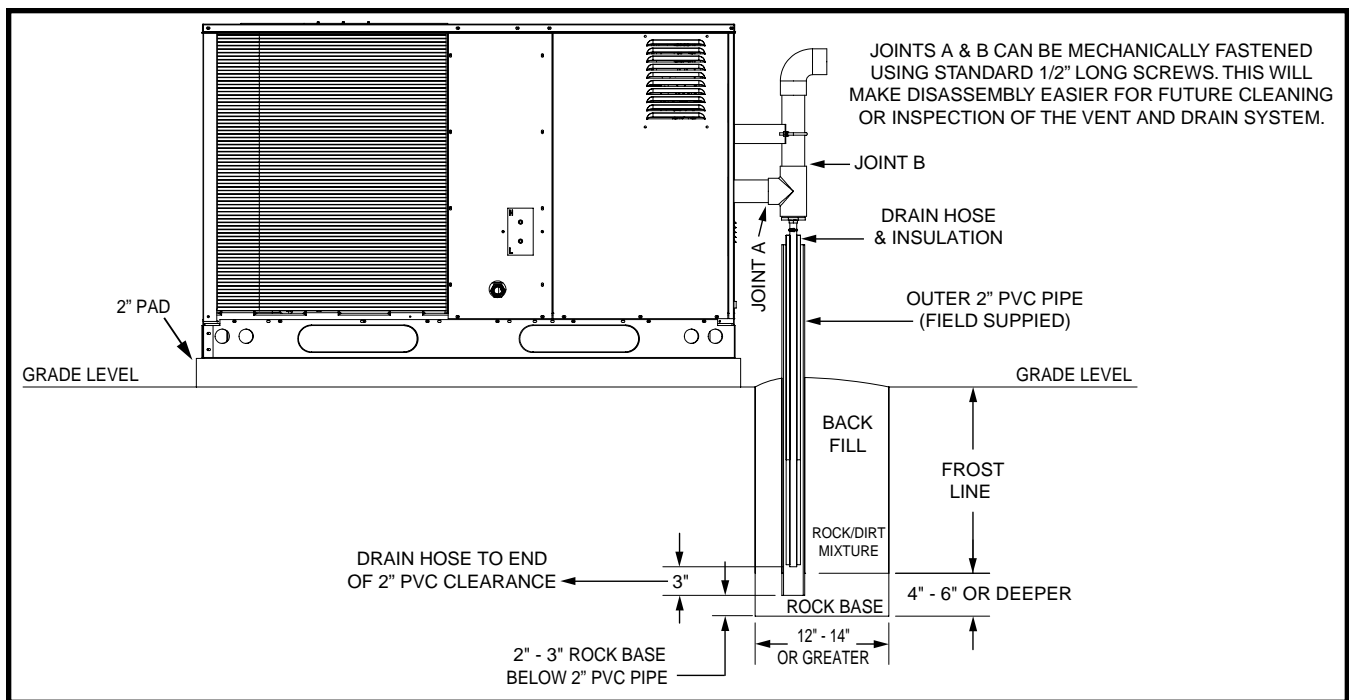
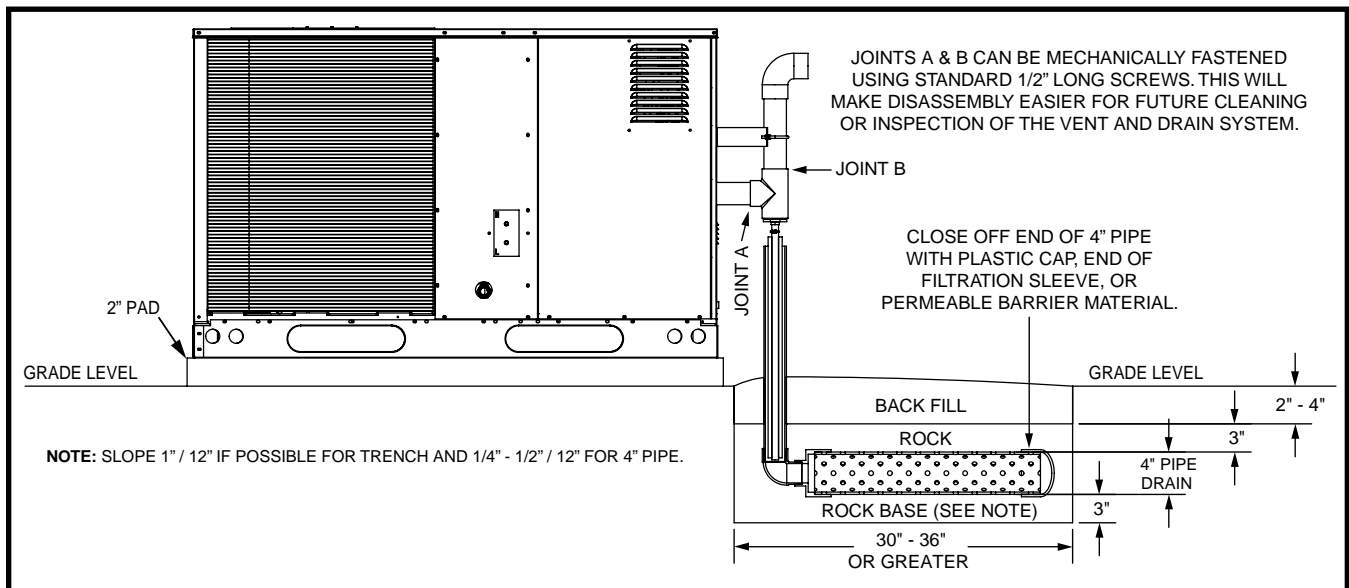

Figure 1. Condensate Disposal Using A Vertical Drainage Pit
Figure 2. Condensate Disposal Using A Horizontal Drainage Trench
Vertical pit should be approximately 12"-14" in diameter (or larger) for installation of the rock base and vertical piping system to allow for proper drainage with a depth of 4"-6" below the regional frost line if possible. See Figure 1.
8. Glue or use two 1/2" long screws (field supplied) to secure the 2" PVC Tee to the unit horizontal vent pipe. See Joint A in Figure 1. **NOTE:** Fastening the Tee to the horizontal vent pipe with 1/2" screws will make disassembly easier for future cleaning or inspection of the drain / vent system.
3. Measure and cut a length of 2" PVC that extends vertically from the bottom of the 3/4" drain fitting at the bottom of the tee to the 2" elbow/reducer assembly resting on the rock base as shown in Figure 2.
11. Glue or use two 1/2" long screws (field supplied) to secure the 2" PVC Tee to the unit horizontal vent pipe. See Joint A in Figure 2. **NOTE:** Fastening the Tee to the horizontal vent pipe with 1/2" screws will make disassembly easier for future cleaning or inspection of the drain / vent system.
5. Cement or mechanically fasten the assembly (with 1/2" long screws) into the top of the tee. Verify the outlet is perpendicular to the unit. See Joint B in Figure 1 and Figure 2.